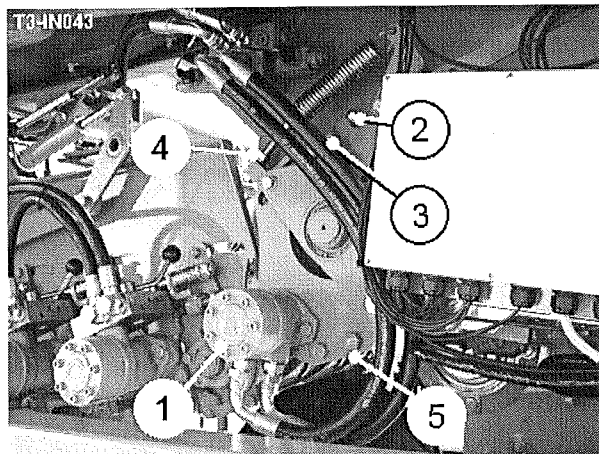

Fig 12
The haulm roller is designed to pinch the haulm and trash and drop it onto the ground under the machine. The haulm roller is directly driven by the hydraulic motor (item 1, fig 12). Roller speed is controlled from the service terminal screen. For some types of crop such as onions etc. it is advantageous to reverse the direction of rotation of the haulm roller. To reverse the haulm roller, simply press the button  on the service terminal.
To increase/decrease the gap between the haulm roller and digger web, release the locknut (item 2, fig 12) and turn the setscrew (item 3, fig 12). The gap must be set equally on both sides. **Do not close the gap too much or the web joiner may foul the haulm roller causing damage to both.**
To increase/decrease the haulm roller spring tension, adjust the setting of the spring tensioner (item 4, fig 12). Adjust both sides evenly and check the setting by measuring the length of exposed thread on the spring tensioners.
The haulm roller is fitted with a scraper (item 5, fig 12). Set the scraper as close to the roller as possible without actually fouling it.